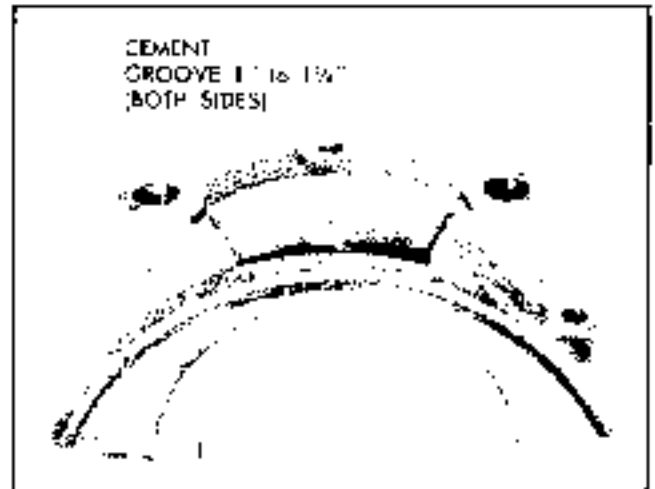

Fig. 6-102 Rear Oil Pan Gasket Positioned in Bracing Cap
2. Install new oil pan gasket in rear main bearing cap (Fig. 6-102).